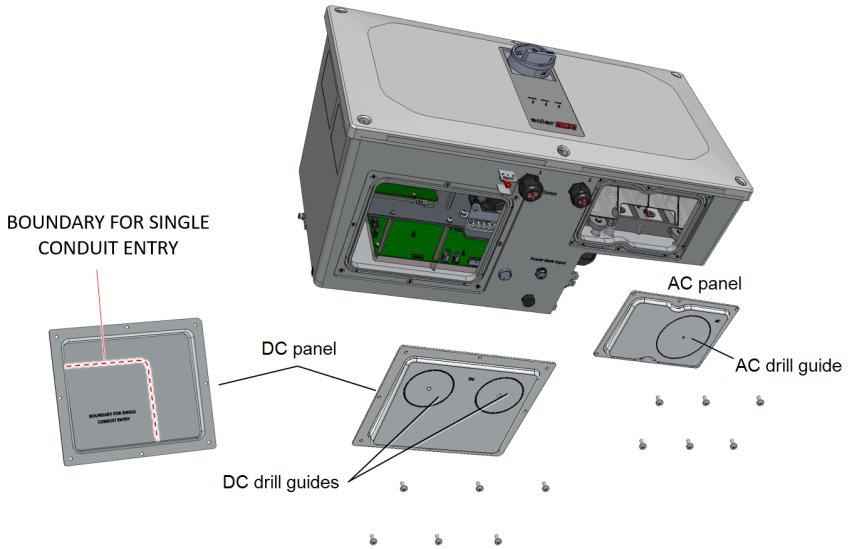

Figure 14: AC and DC panels with drill guides at the bottom of the Synergy Manager
3. Locate the drill guides for conduits on the DC and AC panels. Drill entry hole(s) for up to 2" conduit on the DC panel and 2.5" on the AC panel or drill entry hole for a single conduit, within the boundary marked on the inner side of the DC panel (see *Figure 14*).